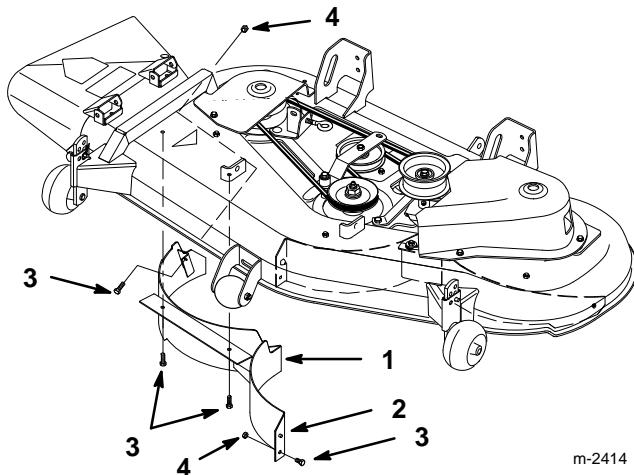

Figure 16
2. Remove lock nuts from top and discharge side and center flange of mower (Fig. 16). Slide baffle into discharge opening and raise into mower so pin on center flange engages left baffle.
3. Secure with previously removed 5/16–5/8" (16 mm) bolts and 5/16" lock nuts in top, discharge side and center flange holes of baffle (Fig. 16).